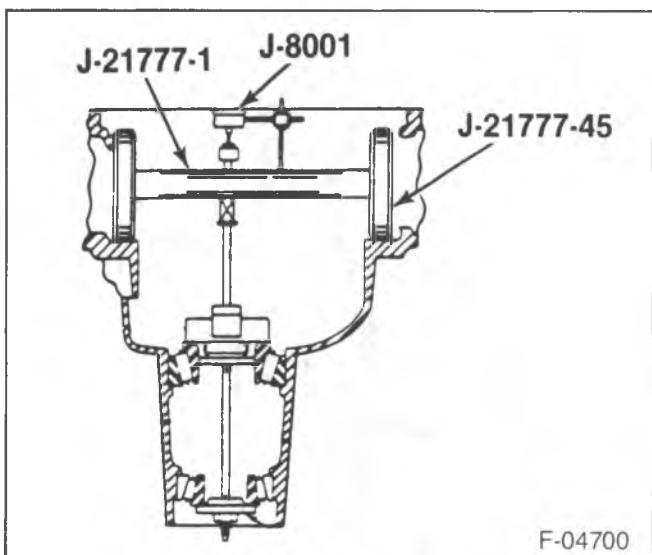

Figure 12—Pinion Gaging Tools
- Assemble J 21777-45, J 21777-1 Arbor, and J 8001 to the differential bearing bore as shown in figure 12.